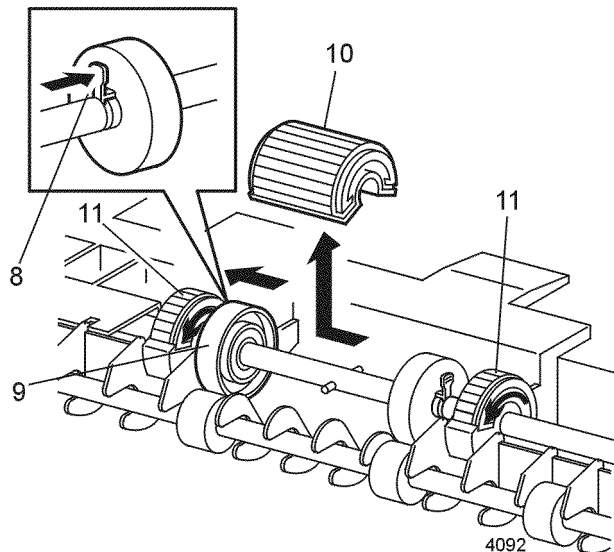

Figure 1 Feed Rolls
9. Slide the roll core to the left (Figure 1).
10. Slide the feed roll to the left and remove (Figure 1).
11. If replacing the envelope feed rolls, rotate the feed roll shaft to access the locking tabs, press the locking tabs and remove the rolls (Figure 1).